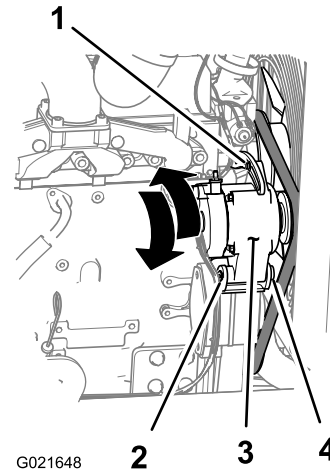

Figure 148
3. Loosen the nut and bolt at the pivot point for the alternator (Figure 148).
4. Loosen the adjustment bolt on the alternator (Figure 148).
5. Move the alternator away from the engine to increase the belt tension; move the alternator toward the engine to decrease the belt tension (Figure 148).
6. Tighten the alternator adjustment bolt (Figure 148).
8. If the belt tension is correct, tighten the nut and bolt at the pivot point for the alternator (Figure 148); otherwise, repeat steps 4 through 7.